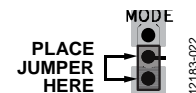

Figure 6. Disabled Jumper Position
- Use a jumper to connect the bottom two pins of the MODE test bus. This jumper connects MODE to GND and places the ADP1972 in boost/recycle mode (see Figure 6).